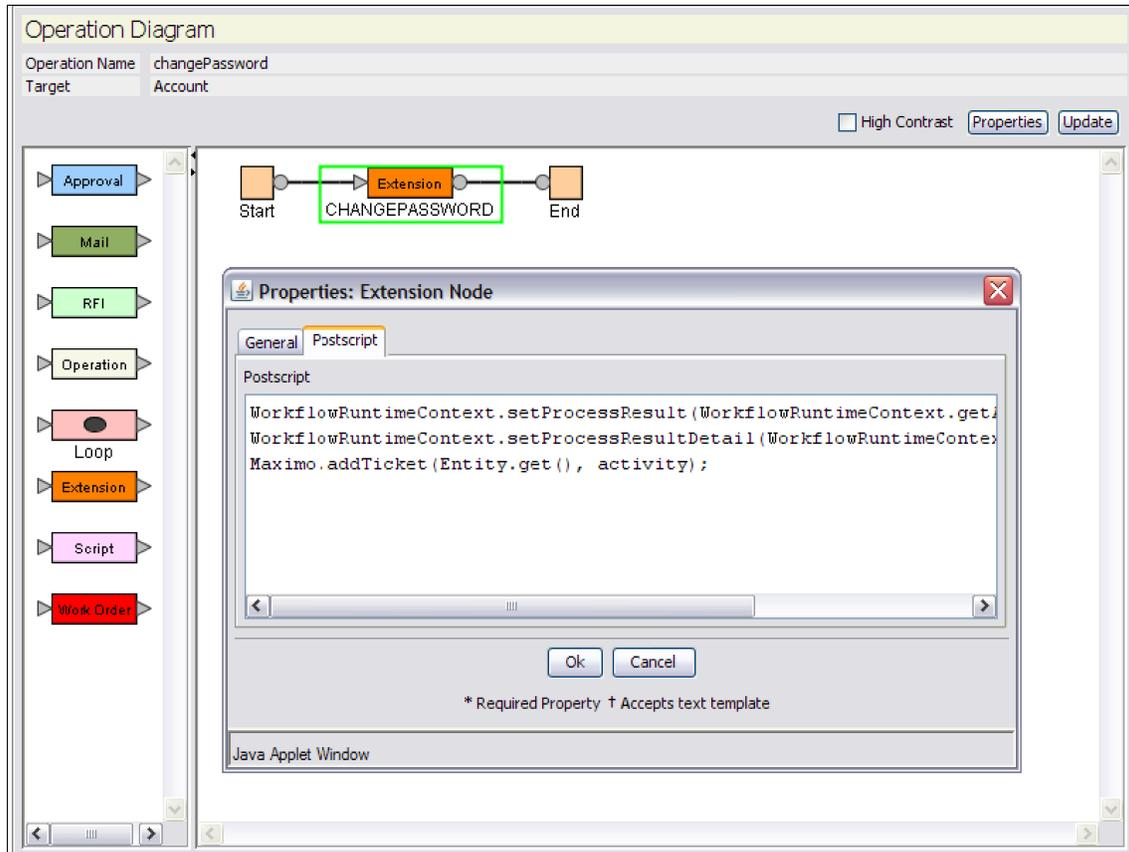

Figure 5-6 ChangePassword Workflow Extension modified to create Maximo tickets
8. Click **OK** to verify the changes. Refer to Figure 5-6 on page 184.